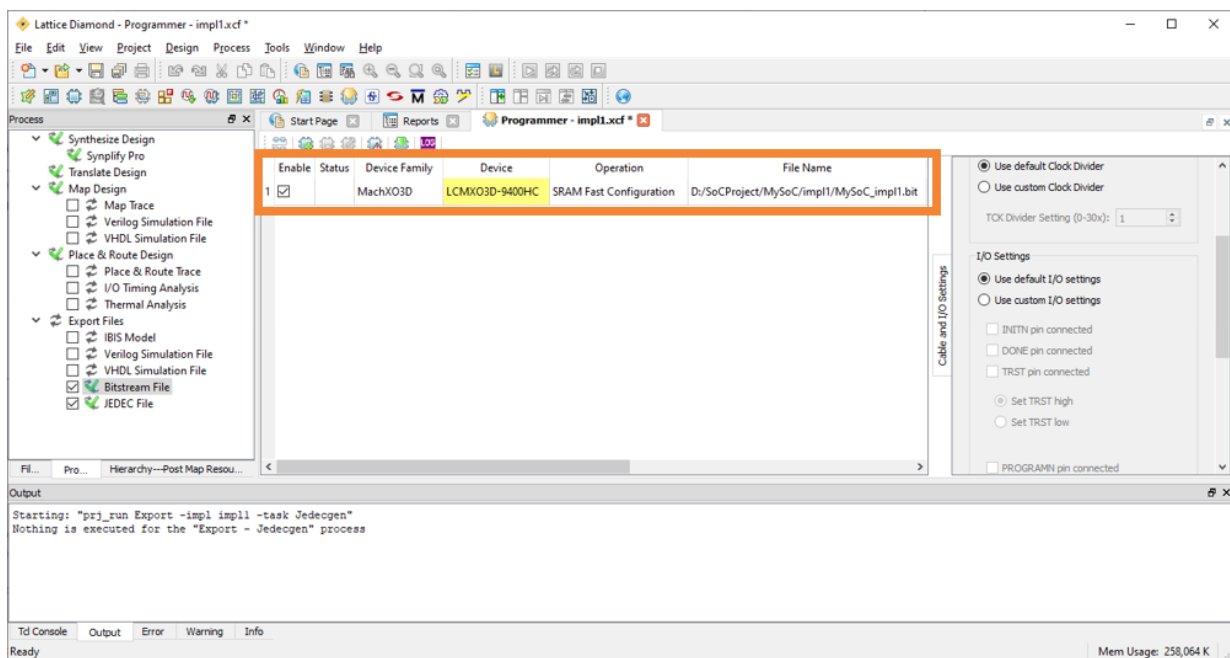

Figure 6.17. Programmer Window
3. Review the **Device Family**, **Device**, **Operation**, and **File Name** in the Programmer window (Figure 6.17).